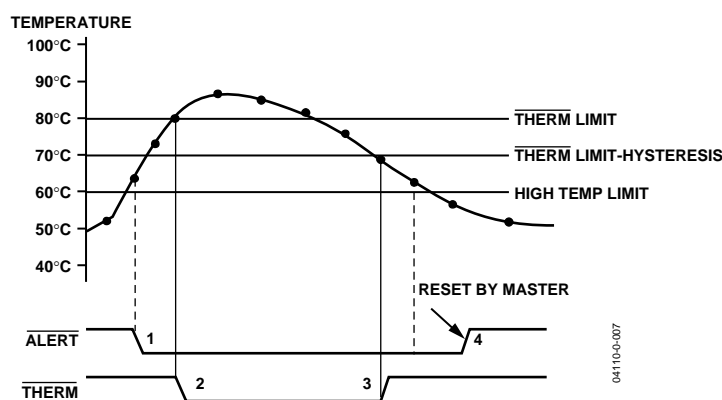

Figure 21. Operation of the $\overline{\text{ALERT}}$ and $\overline{\text{THERM}}$ Interrupts
Figure 21 shows how the $\overline{\text{THERM}}$ and $\overline{\text{ALERT}}$ outputs operate. A user may wish to use the $\overline{\text{ALERT}}$ output as a $\overline{\text{SMBALERT}}$ to signal to the host via the SMBus that the temperature has risen. The user could use the $\overline{\text{THERM}}$ output to turn on a fan to cool the system, if the temperature continues to increase. This method would ensure that there is a fail-safe mechanism to cool the system, without the need for host intervention.
3. The $\overline{\text{THERM}}$ output deasserts (goes high) when the temperature falls to $\overline{\text{THERM}}$ limit minus hysteresis. In Figure 21, the default hysteresis value of 10°C is shown.